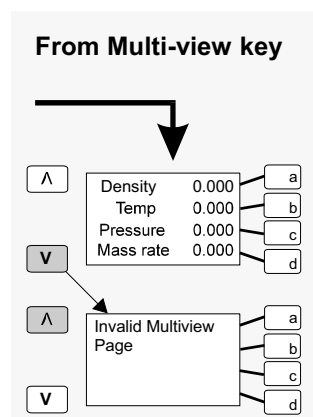

Figure 2.5: Multi-view display
26. Press the **MULTI-VIEW DISPLAY** button. The display looks similar to that in **Figure 2.5**, although values shown may vary.